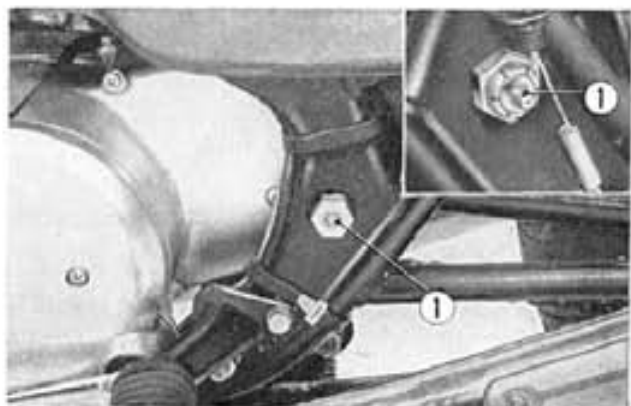

Fig. 19-18 ① Grease nipples
- (1) Lubricate grease nipples on the both side of the rear fork pivot shaft (Fig. 19-18) with multi-purpose grease type NLGI No. 2 every 6 months or every 3000 miles (5000 km), whichever occurs first.
- (2) Check the following items and if there is any fault, correct before riding.